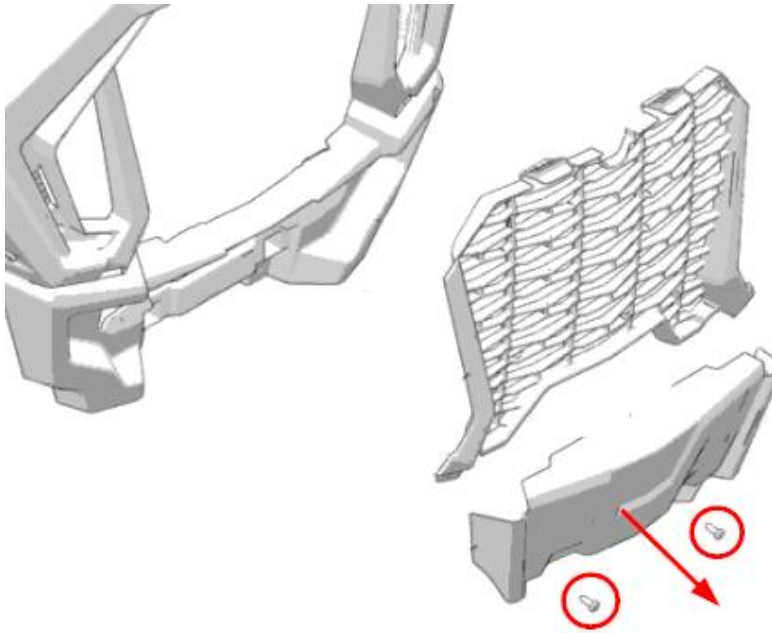

Figure 2
1. Remove the two screws that secure the plastic winch cover plate on the front of the machine as shown in Figure 2.